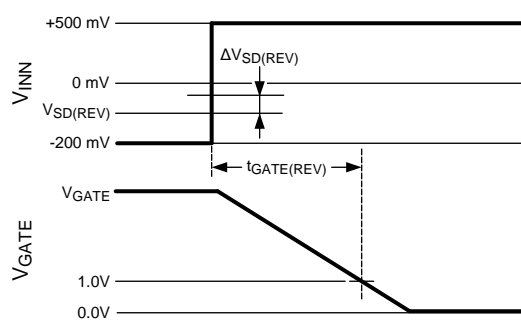

Figure 6. Gate Off Timing for $V_{SD(REV)}$ Transition
(1) Time from V_{INN} voltage transition from -200 mV to $+500\text{ mV}$ until Gate pin voltage falls to $\leq 1.00\text{V}$. See Figure 6